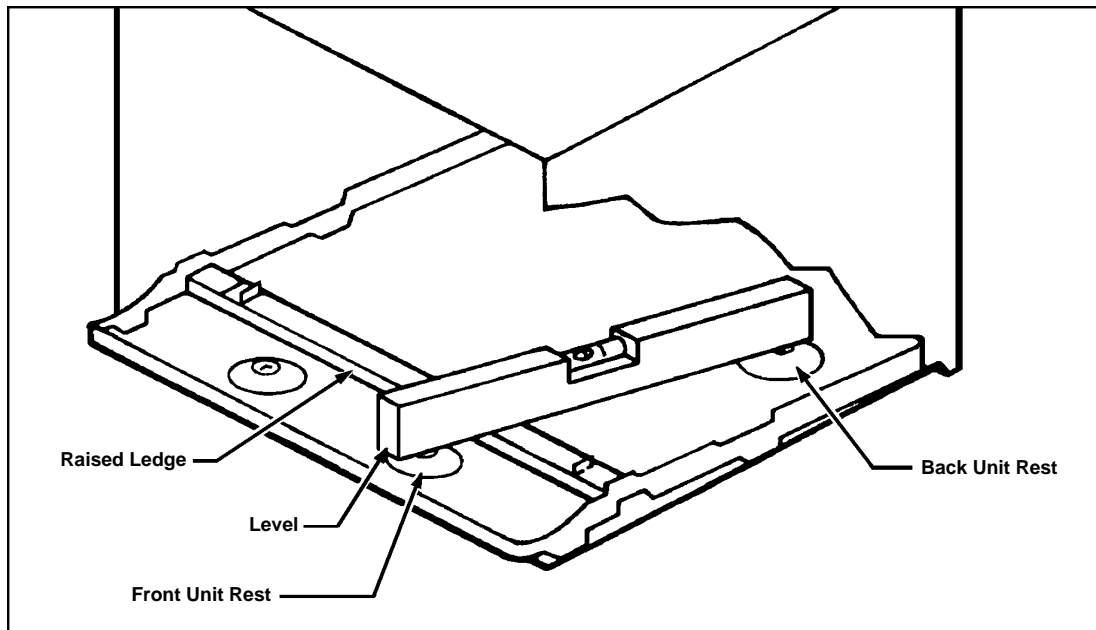

Figure 8
- Adjustable SUBBASE (SB) or other unit support must be provided for panel wall type construction and for walls less than 8" thick.
- A minimum distance of 1" must be allowed on all sides of the unit to adjacent wall and floor. Where the subbase is required, the minimum distance from the floor to the sleeve must be 3 ½". To minimize chances of short cycling of the compressor, the minimum clearance between the ceiling and the top of the unit should be 24". (See Figure 8).
- STEP 4** The WSC SLEEVE must also be installed with a downward tilt toward the outside of the building. If a level is placed so that it rests on the FRONT and BACK UNIT REST as shown in Figure 8, a properly installed unit provides a $\frac{1}{2}$ " bubble slope to the outside of the building.